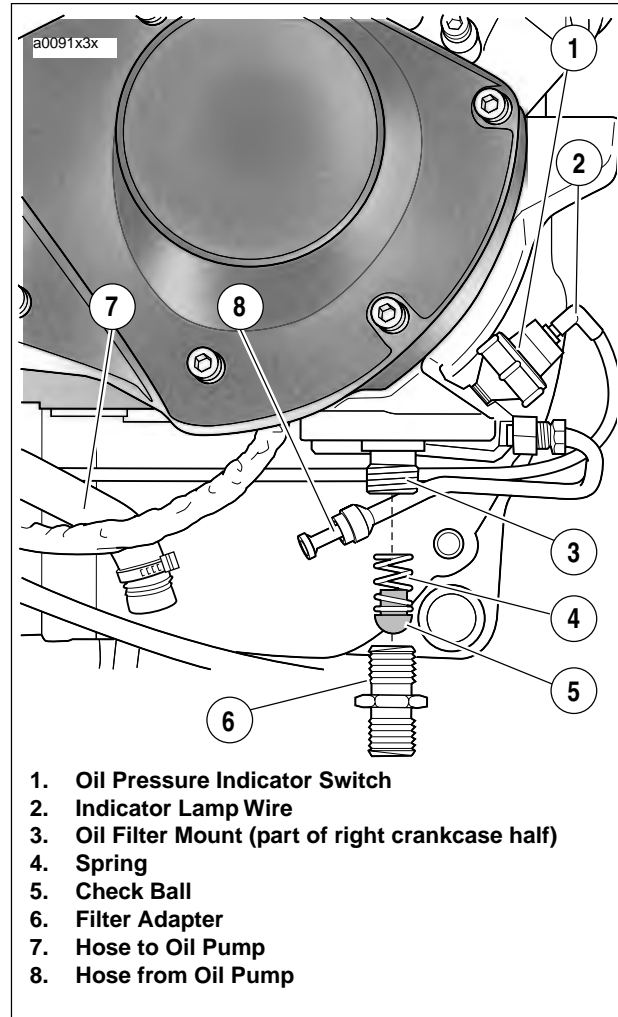

Figure 3-94. Oil Filter Mount Assembly
See Figure 3-94. Oil is pressure-fed from the oil pump to the filter mount via rigid external steel line. Oil travels through the filter mount into the filter through the outer filter holes.
2. See Figure 3-94. Remove filter adapter from filter mount. Remove check ball and spring.
1. See Figure 3-94. Install oil pressure indicator switch using OIL PRESSURE SENDING UNIT WRENCH (Part No. HD-41675). Tighten to 50-70 **in-lbs** (6-8 Nm).